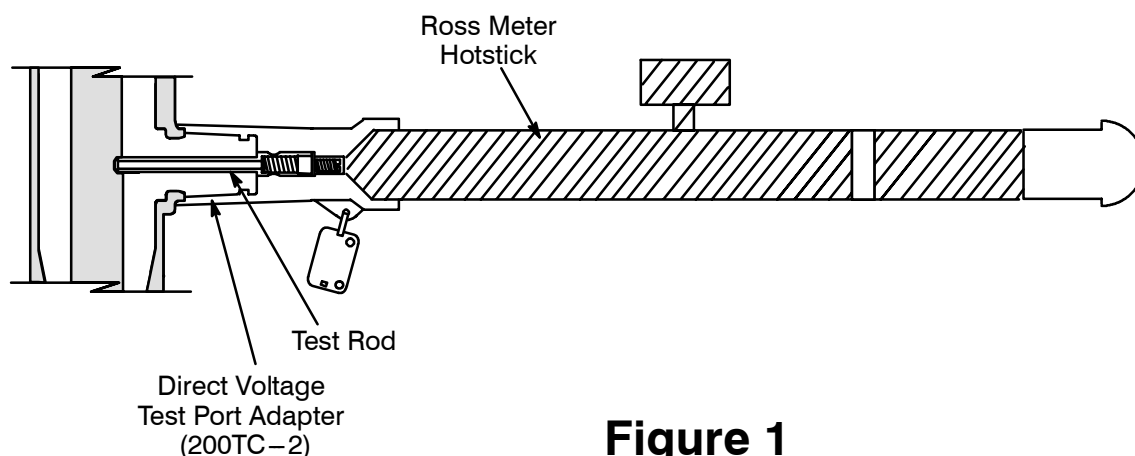

Figure 1
5. Using Ross Meter hotstick tool, insert test rod of direct voltage test port adapter into elbow access port ensuring the direct voltage test port adapter is fully seated (See Figure 1).